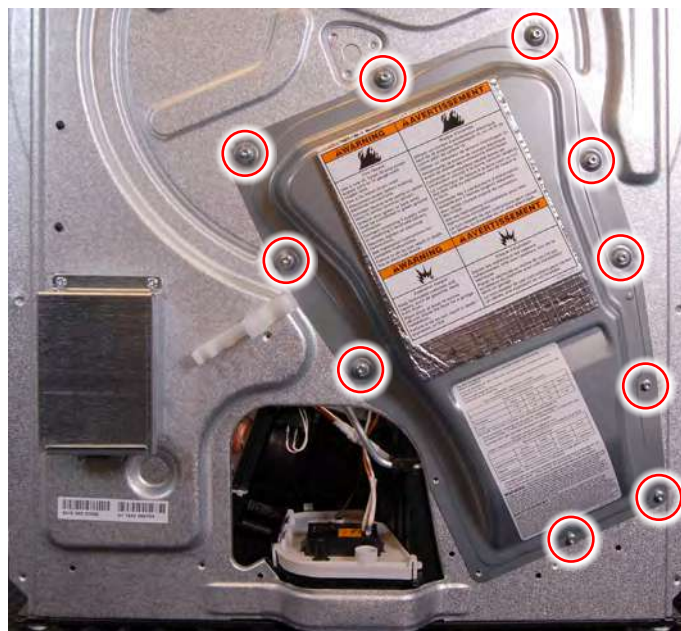

Figure 6
14. Use a T20 Torx driver to remove the ten (10) screws securing heat channel cover to the back panel (as illustrated in Figure 6). Remove the heat channel and set aside.